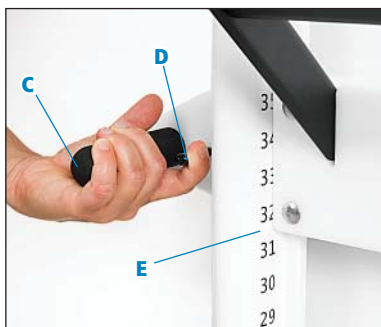

Figure 8b
- The lower adjustment bar is for setting the height of the trunk board (A).
- The upper adjustment bar is for setting the angle of the trunk board (B).
- The adjustment bars can be worked from either side. Grasp the handle (C) from one side only, lift the handle, and squeeze the trigger (D) (see Figure 8b) while using your other hand to lift on the front edge of the trunk board (see Figure 8a).
- Height of trunk board from floor is indicated on the inside of the frame (E), referenced from the top edge of the lower adjustment bar (see Figure 8b).